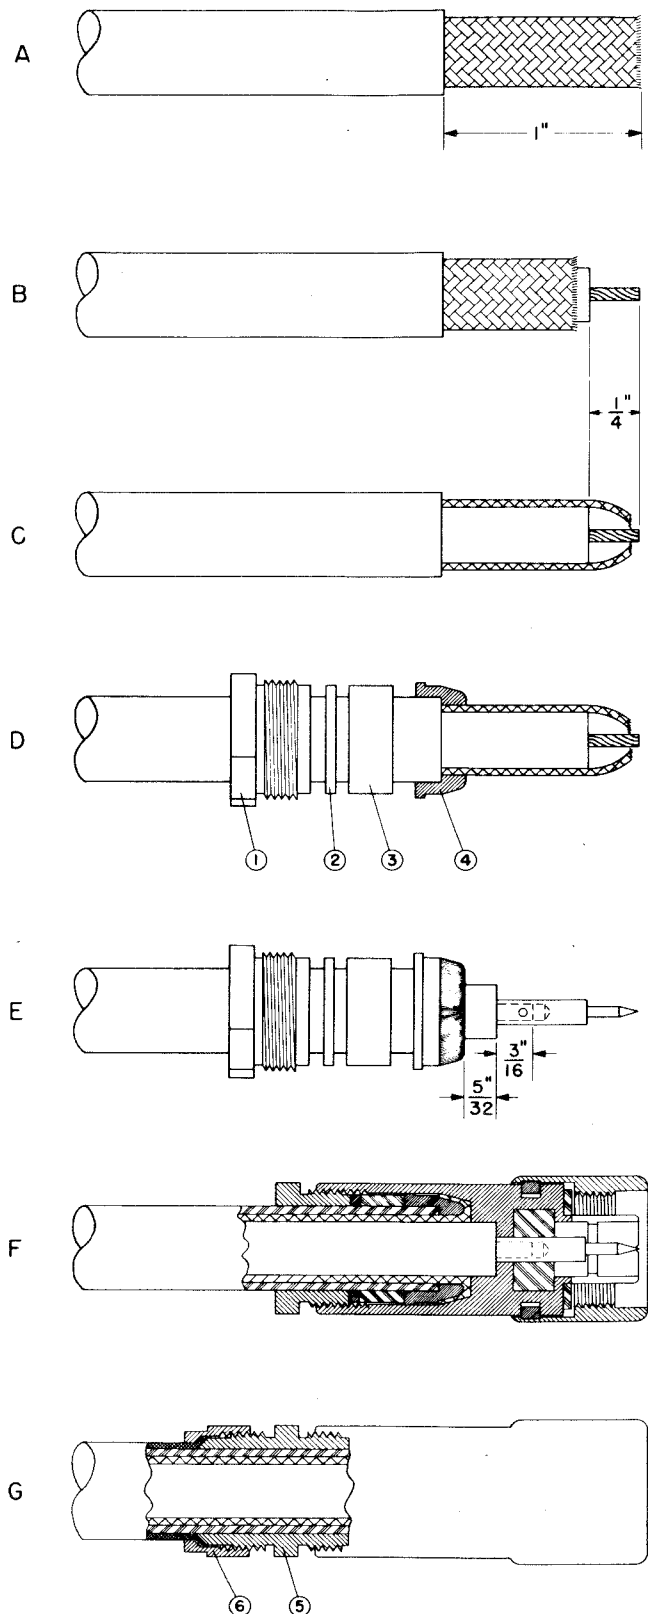

Figure 3-4. Assembly of UG-21B/U Plug and MX-564/U Clamp to RG-11/U or RG-12/U Cable for Antenna Input Connections
(2) EXTERNAL CONNECTIONS.—All the external connection data is shown on the following table. To make these connections it is necessary to fabricate all the cable assemblies. Since all the plug connectors for these cables are attached to their mating receptacles the individual units must be unpacked. Follow the procedure outlined in paragraph 1 of this section to remove the units from their cartons. Refer to Figures 3-4 through 3-7 for the method of assembling the cables to the plugs.